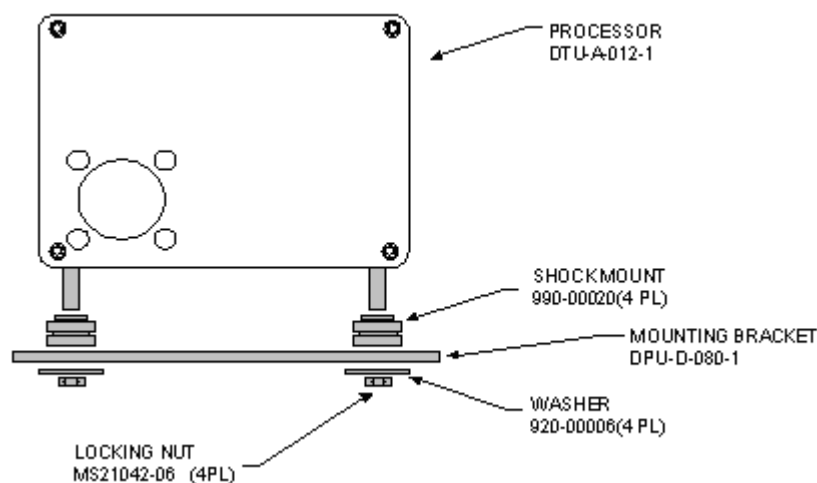

Figure B- 2: DTU/Gen III Processor to Bracket Mounting
- ☐ 040 Install six (6) NAS1836-3 potted inserts in accordance with manufacturer's instructions
- ☐ 050 **For installations in a metal skin**, using the supplied mounting bracket (DPU-A-082-1) as a template, mark the location of the two (2) additional mounting holes and drill to accommodate a #10 screw.
- ☐ 060 Assemble the DTU and Gen III processors to the mounting bracket as shown in Figure B- 2
- ☐ 010 Assemble the DTU to the "Double Stack" mounting bracket P/N DPU-D-080-1, as shown in Figure B- 2.
- ☐ 010 **For installations in a honeycomb/sandwich panel**, when a location has been determined for the DTU processor, using the supplied mounting bracket (DPU-D-098-1) as a template, mark the location of the four (4) holes and drill to accommodate a NAS1836-3 potted insert.
- ☐ 020 Install four (4) NAS1836-3 potted inserts in accordance with manufacturer's instructions
- ☐ 030 **For installations in a metal skin**, when a location has been determined for the DTU processor, using the supplied mounting bracket (DPU-D-098-1) as a template, mark the location of the four (4) mounting holes and drill to accommodate a #10 screw.
- ☐ 040 Assemble the DTU processor to the mounting bracket as shown in Figure B- 2